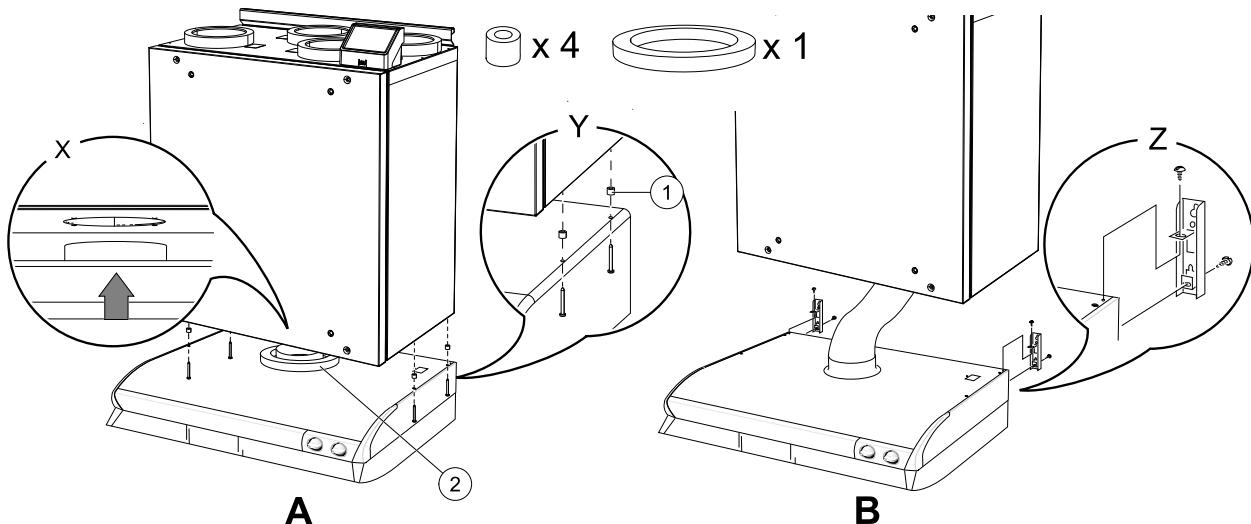

Fig. 7 Installation of the cooker hood
- Place a circular insulation on the cooker hood connector to prevent air leaking (figure 7, pos. 2).
Insert the cooker hood directly into the unit (figure 7, A). Screw the cooker hood to the bottom of the SAVE VTR 150/B unit (figure 7, pos. Y). The duct connector have to go into the unit. Make sure the duct connector is aligned with the unit before starting (figure 7, pos. X). Use included screws and plastic spacers to prevent over-tightening which could lead to bent cooker hood (figure 7, pos. 1).
- Other installation method is to connect the cooker hood to the unit via a flexible duct (figure 7, B). Use mounting mechanism which is delivered together with the cooker hood (figure 7, pos. Z).